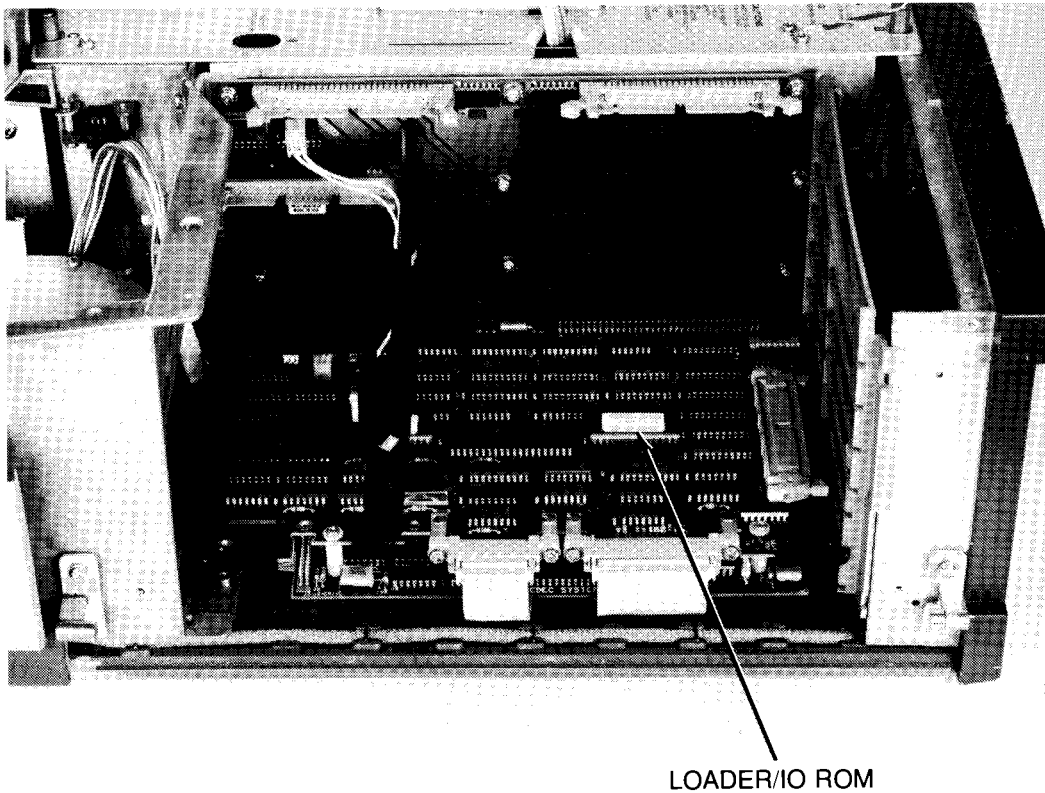

Figure 6
9. Remove loader/ID ROM from bootstrap loader card and install it on the Winchester controller assembly (Figure 6).
17. Slide the controller assembly into the mass storage controller card guides so that the upper card is in the next to the bottom slot. Plug both ribbon cables into the pin headers on the outside edge of the upper card (Figure 6).